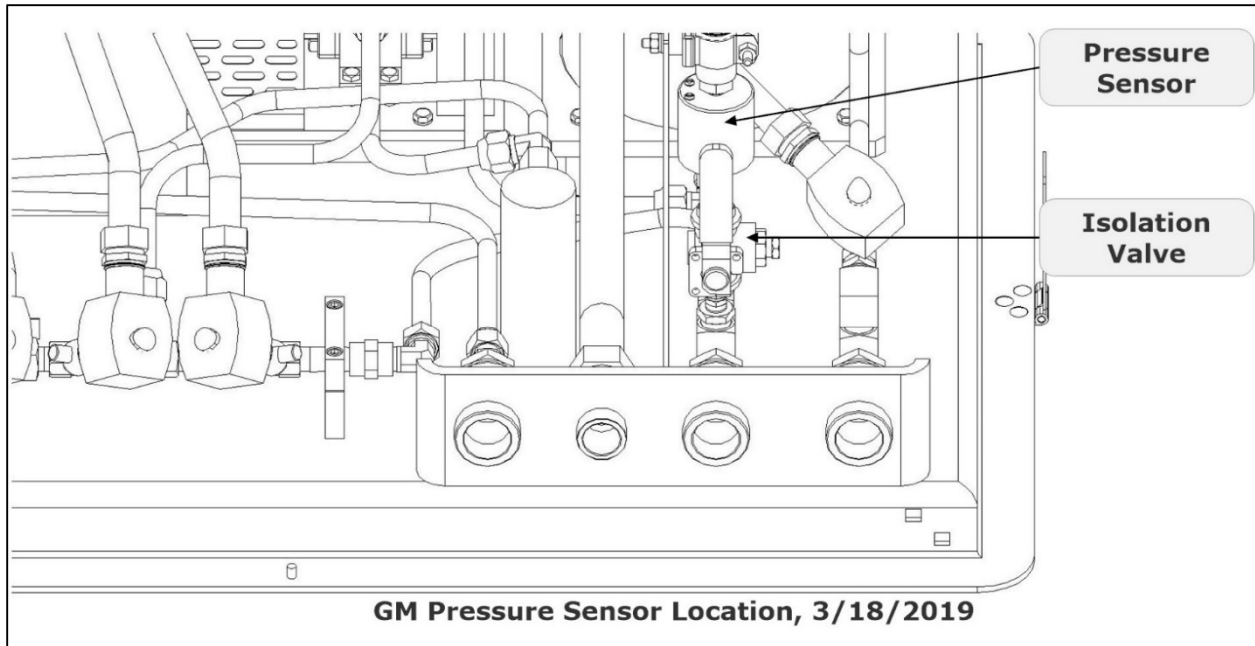

Figure 2-3: Pressure Sensor w/ 3-Way Isolation Valve Open
- Make sure the ball valve below the Pressure Sensor is OPEN, or the handle is vertical. **See Figure 2-3.**